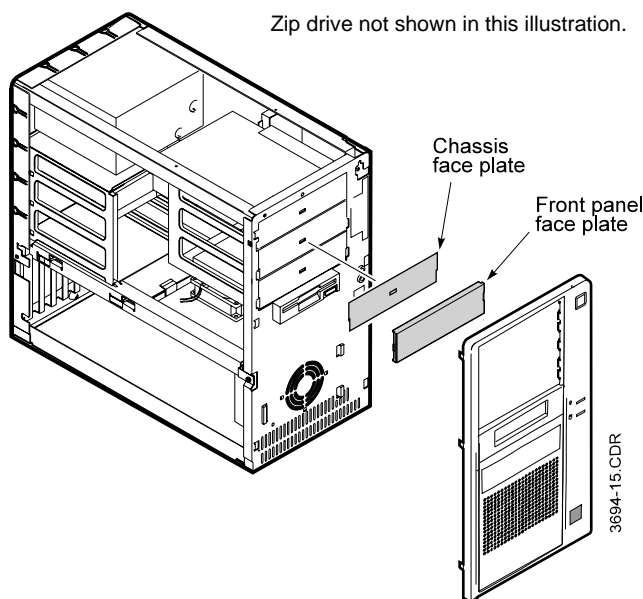

Figure 14. Accessing the Front Drive Bay
3. Remove a face plate from the front panel and the corresponding face plate from the chassis (Figure 14):